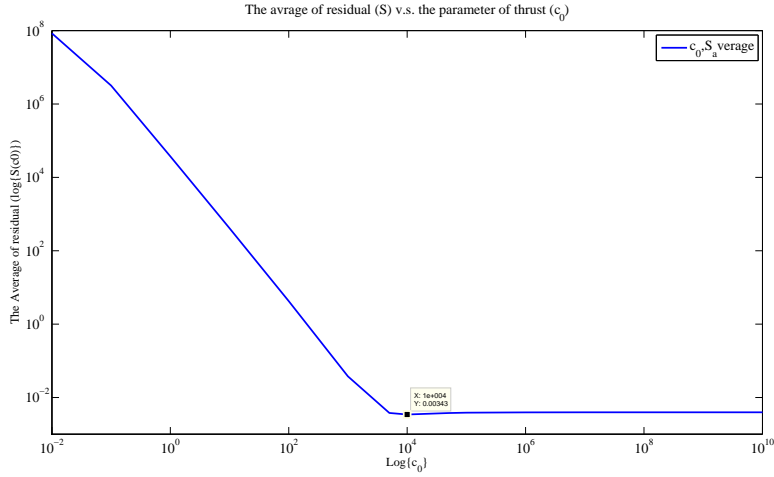

Figure 3: The average residual v.s. the parameter of thrust.
In part 2, I change the values of c_0 (from 0.01 to $1.0e + 11$) and compute the average of residual (using equation (17)) to find out where I can get the minimum average residual, as in figure 3.
From the result of figure 3, when the parameter $c_0 = 10000$ (the best value), the extended Kalman filter will have the minimum average residual ($S(c_0) = 0.00343$)